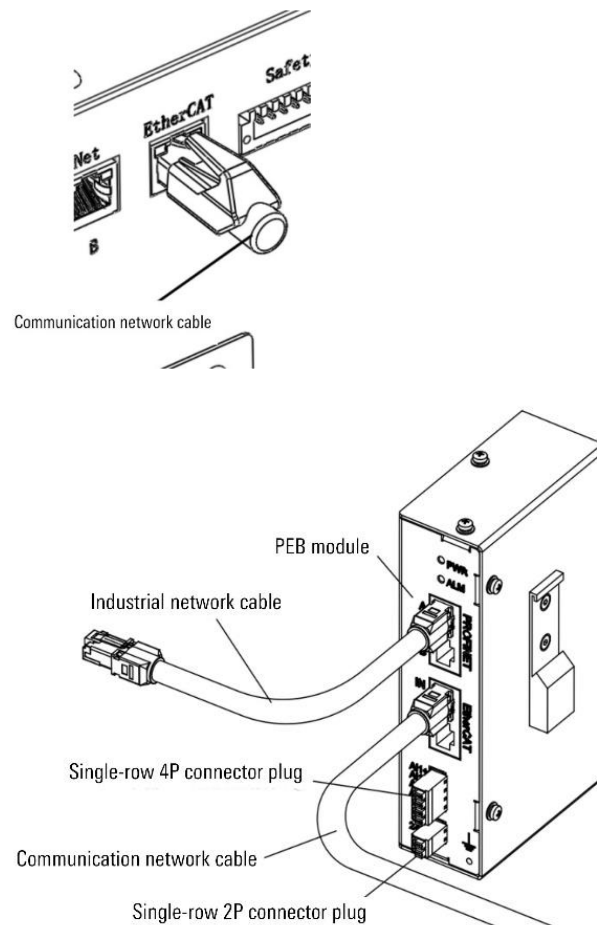

Figure 15-5 PEB module wiring
- Step3. According to actual needs, use a communication network cable to connect the Ethercat interface of the control cabinet (the control cabinet corresponds to the Ethercat interface) and the EtherCAT-IN interface of the PEB module; use an industrial network cable to connect the Profinet-A interface of the PEB module and the PLC device, refer to Figure 15-5.